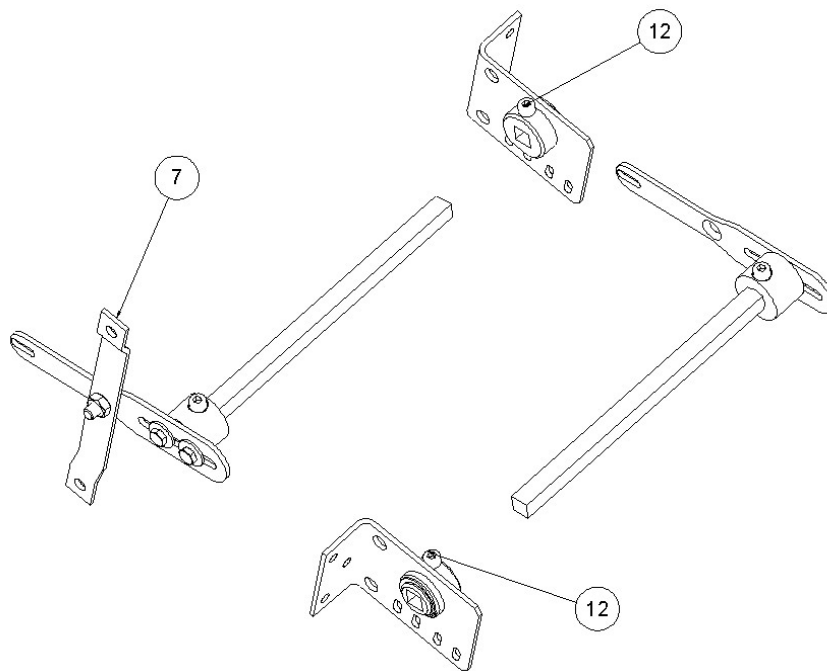

Figure. 5
- 5. MOUNTING PLATES AND ARMS JOINT:** Before joining the mounting plates and the arms, it should be checked which is the right plate and which is the left one. The arm with the governor linkage (**7**) must be introduced in the plate of the side where the lift speed governor is placed and the arm without the governor linkage will be introduced in the oder plate. The support cap screw (**12**) must be tightened in order to fix together the mounting plates and the arms – Fig. 5